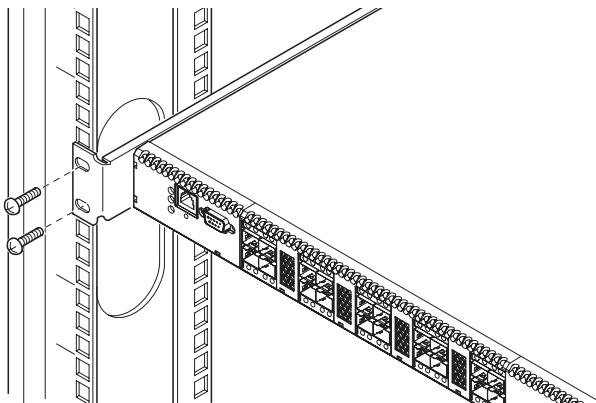

Figure 10 Fastening the rail to the front of the rack
5. Fasten each rail flange to the front of the rack using two M6 machine screws (Figure 10).